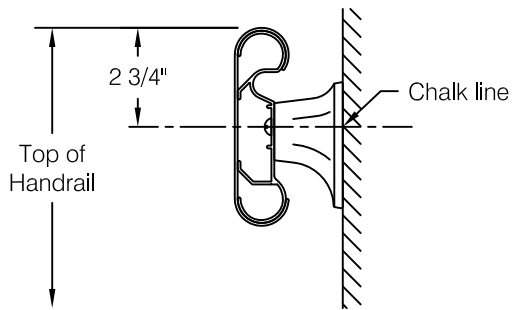

fig 1
**Step 1** Determine top of handrail height and snap a chalk line 2-3/4 inches below for centerline of mounting hardware, see **fig. 1**.